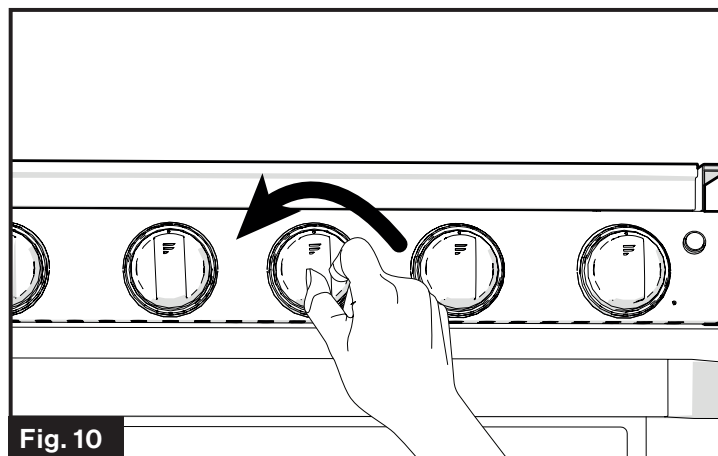

Fig. 10
2. Push and turn the appropriate burner control knob counterclockwise to the 🔥 position. (Fig. 10)